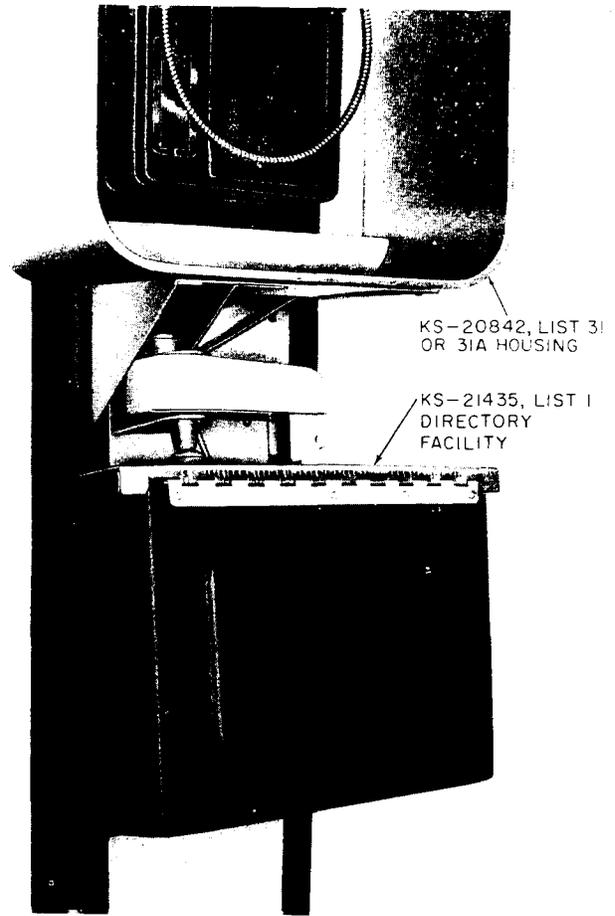

Fig. 16—List 31 or 31A Housing With KS-21435, List 1 Directory Facility
3.17 Install KS-21435, List 1 directory facility (Fig. 16) under a KS-20842, List 31 or List 31A housing using the four No. 10-32 by 3/8 flathead security screws furnished with the facility.